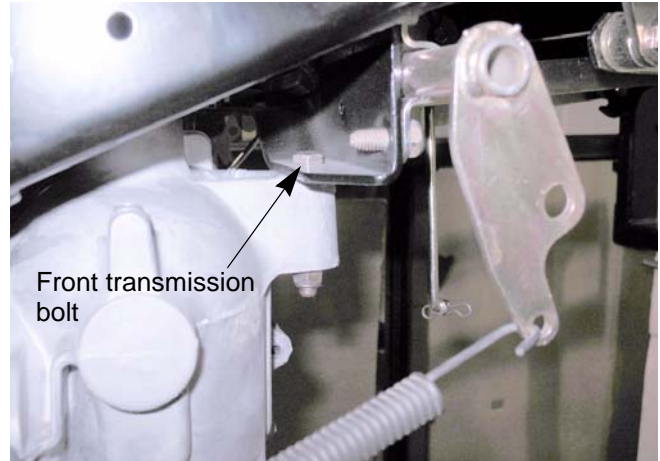

Figure 5.18
11. Remove the nut and bolt that hold the front of the transmission to the frame cross member using a pair of 1/2" wrenches. See Figure 5.18.